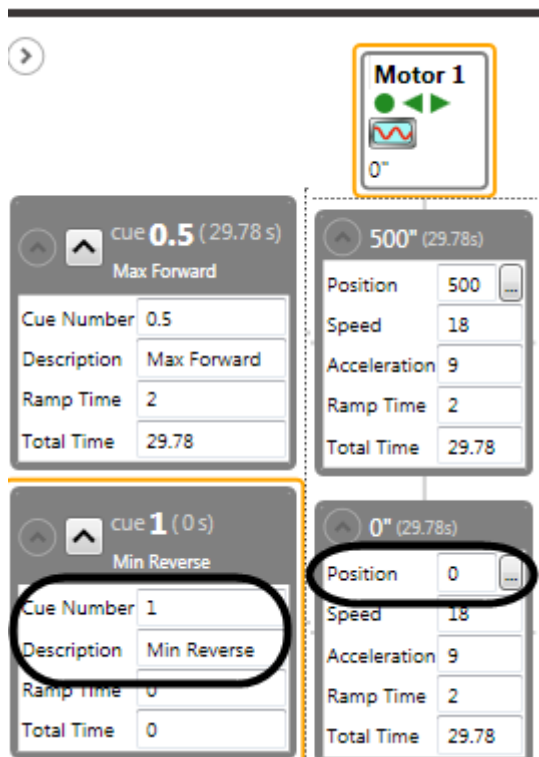

Figure 45
6. Now that we've added Cue .5, let's write another Cue. By default, **Cue 1** already exists. Enter its **Description** as "Min Reverse," then repeat steps 3 through 5 and enter a **Position** value of "0" (Figure 45).